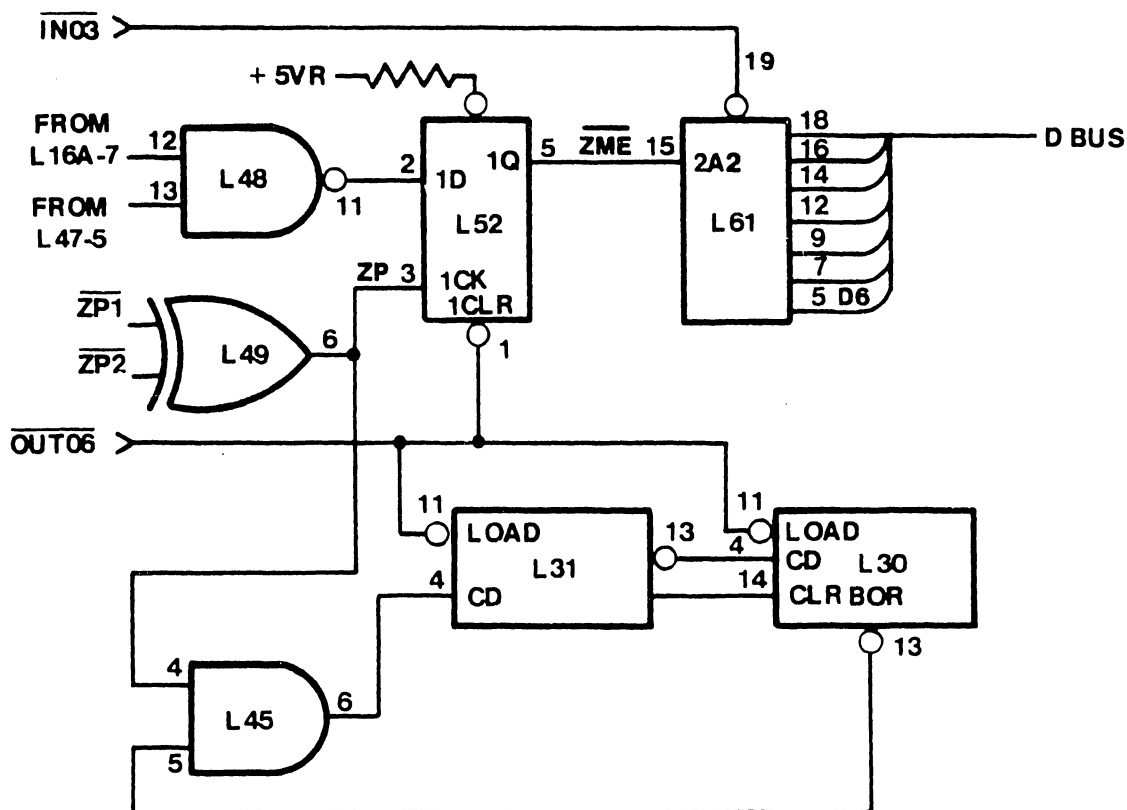

FIGURE 4-17 PRINT WHEEL ERROR DETECTION CIRCUIT
4.2.5 PRINT WHEEL ERROR DETECTION (SEE FIGURE 4-17 AND SCHEMATIC 7361A-2 AND 7360-1)